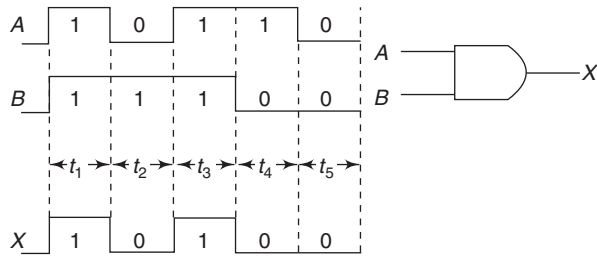

Fig. 4.6 Example of Pulsed AND Gate Operation.
In examining the pulsed operation of the AND gate, we will look at the inputs *with respect to each other* in order to determine the output level at any given time. For example, in Fig. 4.6, the inputs are both HIGH (1) during the interval t_1 , making the output HIGH (1) during this interval. During interval t_2 , input A is LOW (0) and input B is HIGH (1), so the output is LOW (0). During interval t_3 , both inputs are HIGH (1) again, and therefore the output is HIGH (1). During interval t_4 , input A is HIGH (1) and input B is LOW (0), resulting
The output X will be HIGH only when both A AND B (AB) are HIGH at the same time. Using this fact the output waveform can be determined as shown in Fig. 4.6.